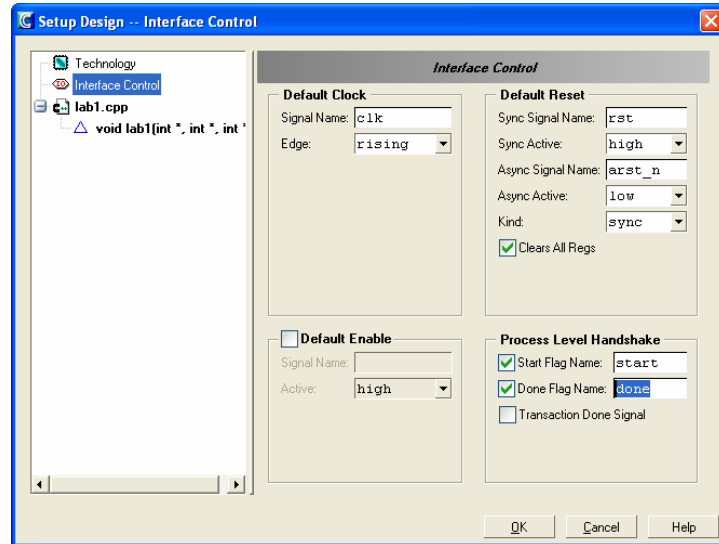

Figure 4 Adding Start/Done Handshaking
- ✓ Click on the interface Control icon in the Setup Design dialog box and check the “Start Flag Name” and “Done Flag Name” check boxes. This will instruct Catapult to insert the Start/Done process level handshake into the generated RTL (Figure 4).